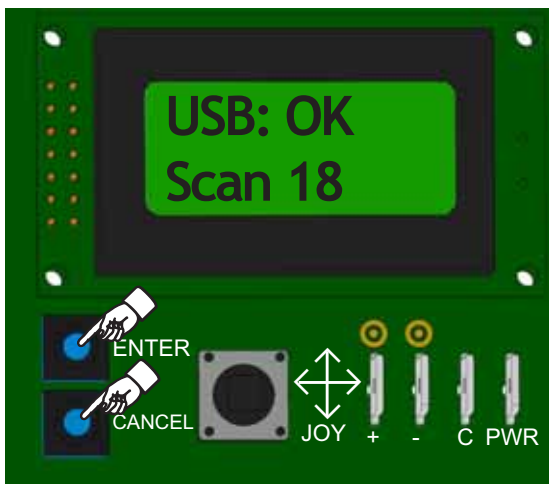

Figure 2: USB flash drive back-up complete
2. The UCB displays the number of files and folders transferring over to the flash drive, see Figure 2.